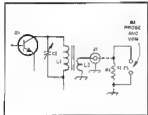

Fig. 2 — Details for measuring transmitter output power with a dummy load (PL), an rf probe and a VOM (see text).
Fig. 2 shows how we can use a 47-ohm resistor as a dummy load to measure the output power. An rf probe (mentioned earlier) and VOM are connected across R1 with the key closed. Output power can be calculated from:
Fig. 2 — (A) Perspective view of a circuit board that uses the standoff technique as shown at A. A closeup view of one of the standoff resistors is shown at B. Note how the potentiometer is bent. The schematic diagram at C shows the assembled circuit displayed at A.
Fig. 2A illustrates precisely how one might apply the standoff technique to wire the circuit shown at C of Fig. 2. Illustration B demonstrates how the resistor pigtail is bent before the component is soldered to the pc-board material. The base circuitry at Q1 of Fig. 2A is strung out excessively. This was done to reduce clutter in the drawing. In a practical circuit all of the signal leads should be kept as short as possible. R4 would, therefore, be placed much closer to Q1 than the drawing indicates.
R1 and R2 of Fig. 2 actually serve two purposes: They are not only the normal circuit resistances, but function as standoff posts as well. This practice should be followed wherever a capacitor or resistor can be employed in the dual role.